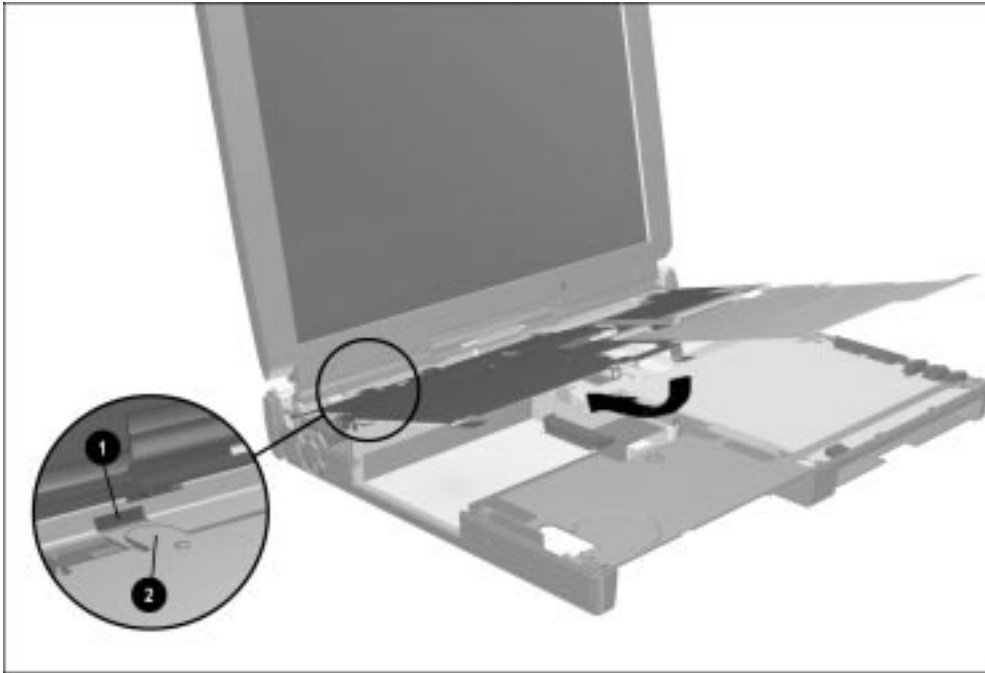

Figure 5-23. Installing the EMI shield
1. Replace the EMI shield, making sure the four tabs on the back of the shield ❶ fit into the appropriate slots ❷ on the U-channel (Figure 5-23). Install the six screws that secure the shield to the base assembly.